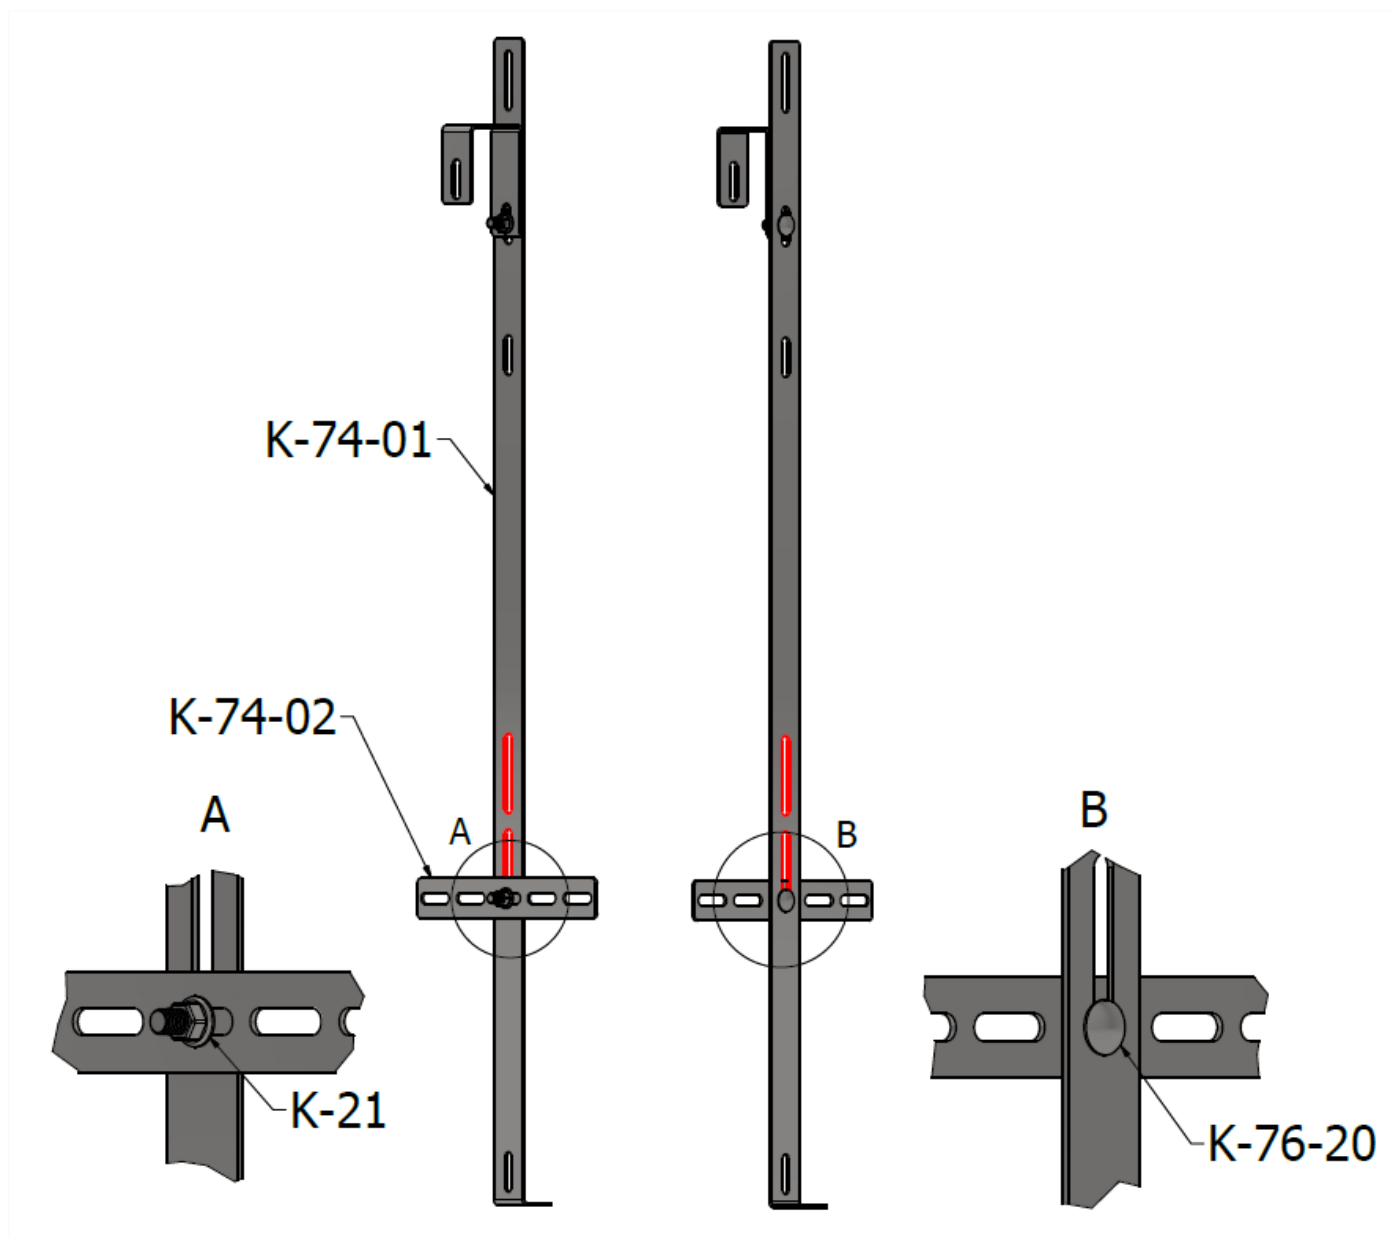

FIG.4 Bolting of flat bar K-74-02 with hook K-71-01
3. In the next step, the flat bar K-74-02 must be pre-bolted to the hook K-74-01 using the carriage bolt K-76-20 and nut K-21, use the appropriate hole to fit the assembly to the railing (FIG.4).